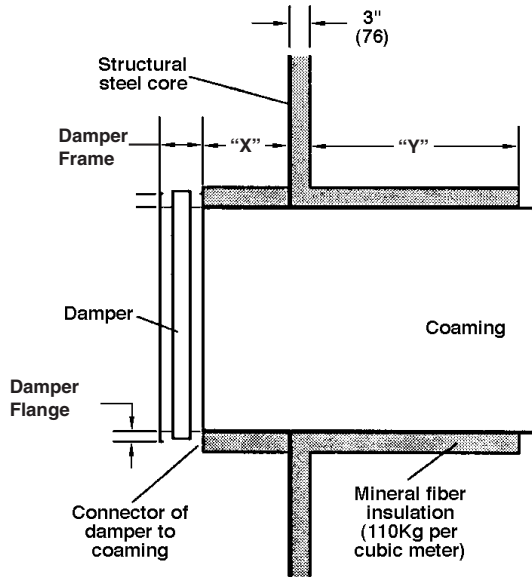

Fig 1 Bulkhead (Vertical)
The ductwork must be insulated a minimum of 12" (305) or 9" (229) on the damper side and 17" (432) on the non-damper side (see figures 1 and 2). Any US Coast Guard type approved insulation with an A-60 rating can be used. The insulation is to be installed on the duct in the same manner as the insulation protecting the division.